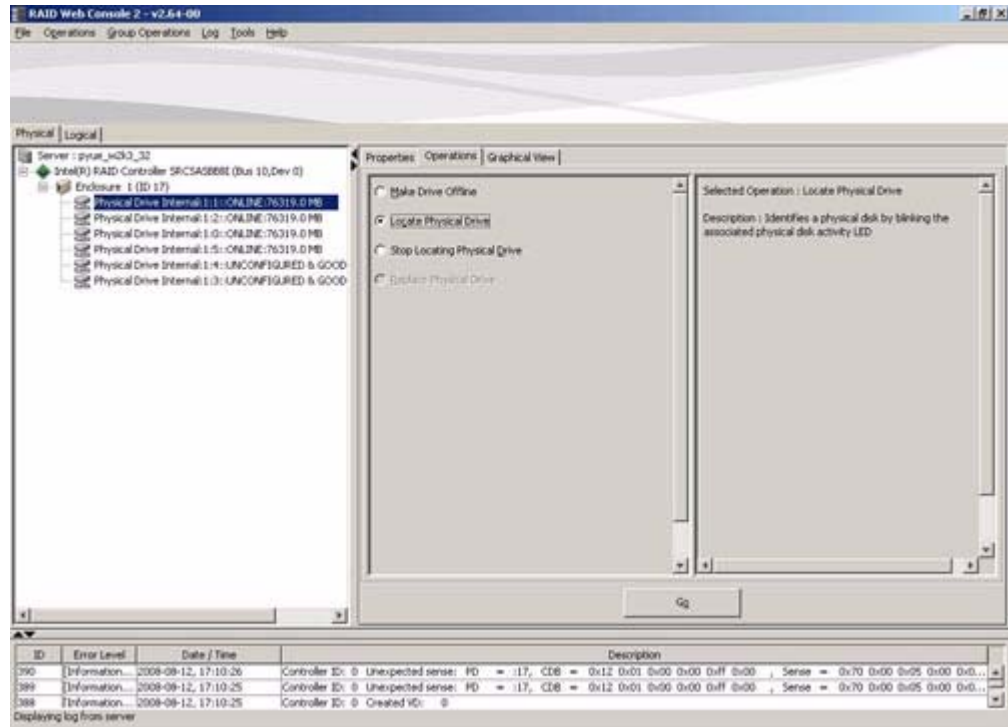

Figure 75. Locating a Physical Drive
3. Select **Locate Physical Drive** and click **Go**. See Figure 75.